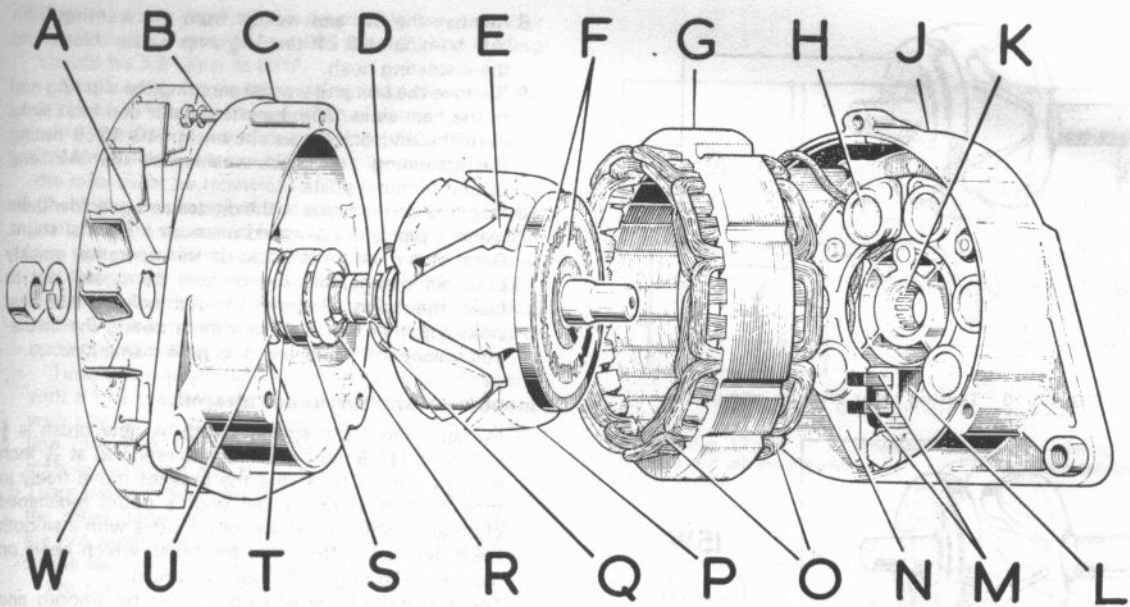

FIG 12:8 Exploded view of alternator
Key to Fig 12:8 A Woodruff key B Through-bolt (3) C Drive end bracket D Jump ring shroud E Rotor (field) winding